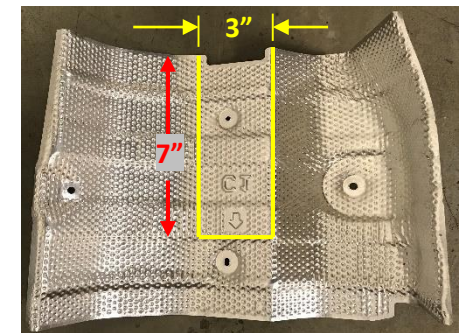

Figure 2
- Remove heat shield** - Using a 10mm socket, remove the nuts that hold the heat shield to the vehicle. Trim the heat shield in the area where the hitch contacts the framerail (dimensions are approximate.) See Figure 2